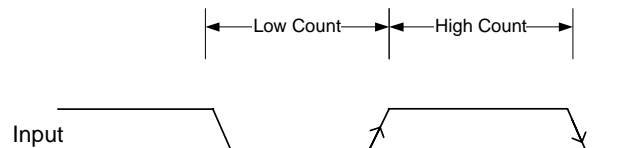

Figure 88. Pulse-Width Measurement Mode
- On the falling edge of the source clock, the free-running count is copied to the HIGH_FIXED_COUNT bit field (as shown in Figure 88).